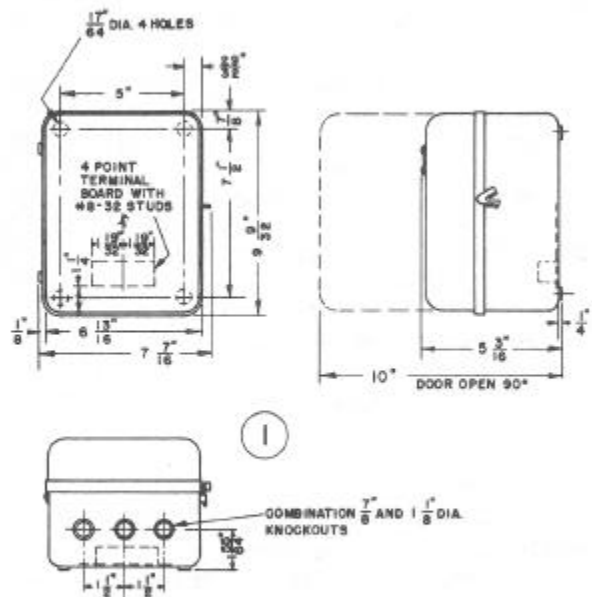

Figure 3-9 Outline Drawing of Microphone Filter Unit
**h. Microphone Circuit Filter Installation.**—This filter unit is used only with installations of Models TCK and TCK-1 equipments. It may be installed in any position on the deck or bulkhead between the motor-generator and transmitter units. Clearance should be left so that the cover may be opened for service and installation purposes. The installation and clearance dimensions are shown on the outline drawing, Fig. 3-9.